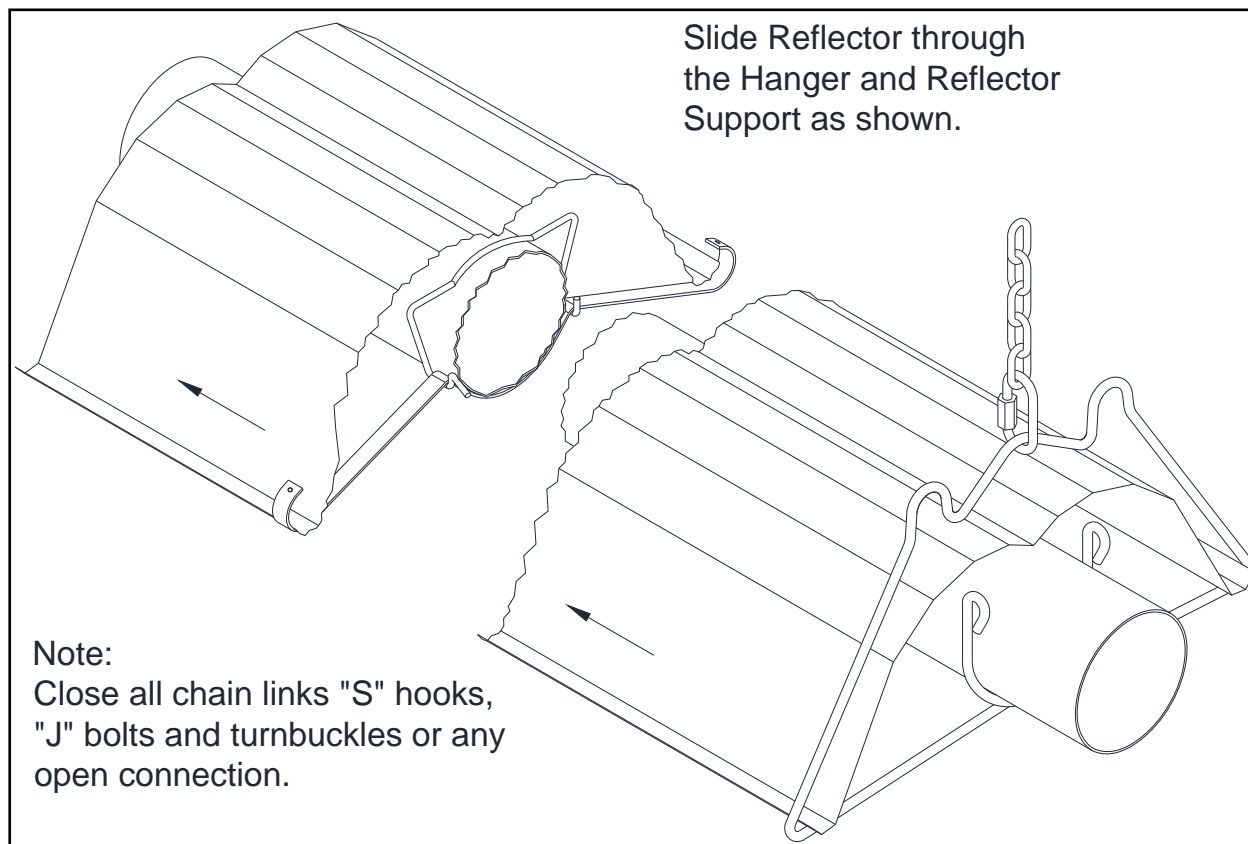

Figure 13: Reflector Installation
- Slide a reflector section into place within the support hanger, (Figure 13).